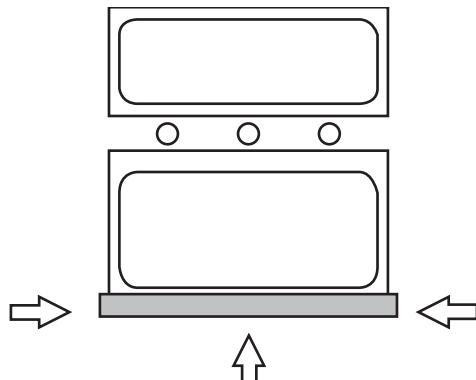

Figure 8-6 LCD Cushion Placement (Inside View)
4. Peel off the adhesive backing and install the LCD cushion across the bottom edge of the inset (recessed area for the LCD). See Figure 8-6. When properly positioned, you should be able to feel a ridge (the inset edge) in the center of the LCD cushion. The cushion should also be centered from left to right. Ensure that the cushion is not visible in the display window when looking at the outside of the case.